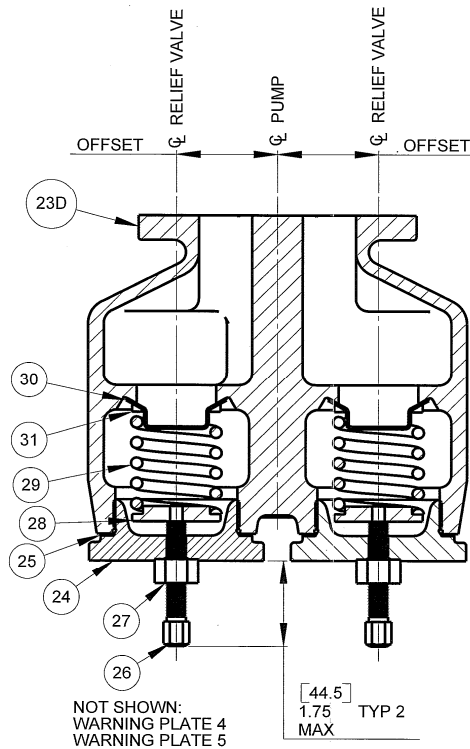

Figure 6.4
Refer to the sectional drawing shown in Figure 6.4
2. Loosen the locknut (27) on the adjusting screw (26).
3. Back the adjusting screw (26) out to point where end of adjusting screw will be 1-3/4 inches [44.5 mm] from plug cap (24). See drawings shown in Figures 6.4.